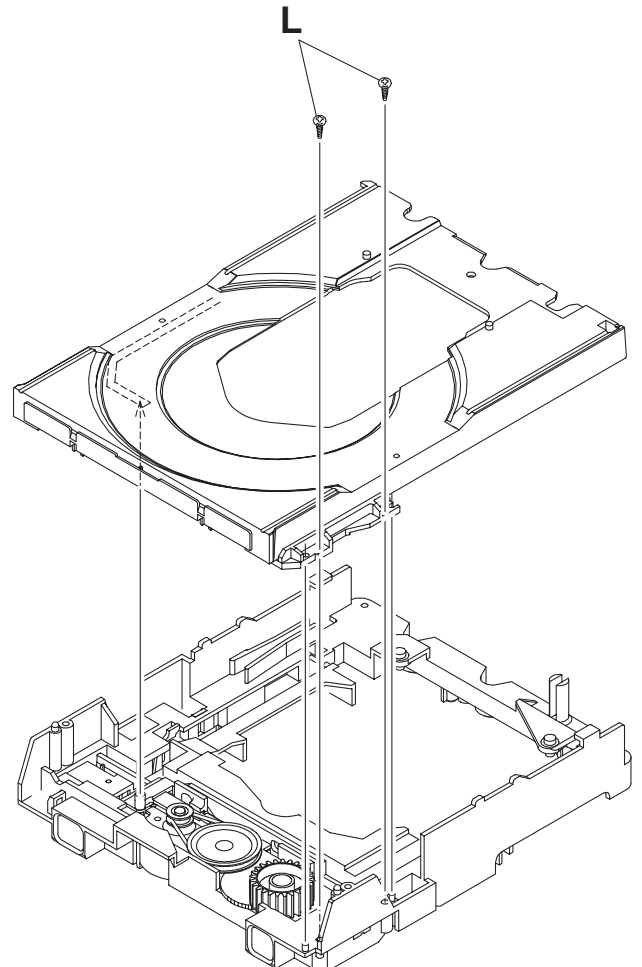

Fig.15
- (3) Remove the two screws **L** attaching the shaft guide from top side. (See Fig.15)
When attach the tray assembly, boss of loading sub assembly should attach to guide of bottom side at tray assembly. (See Fig.15)